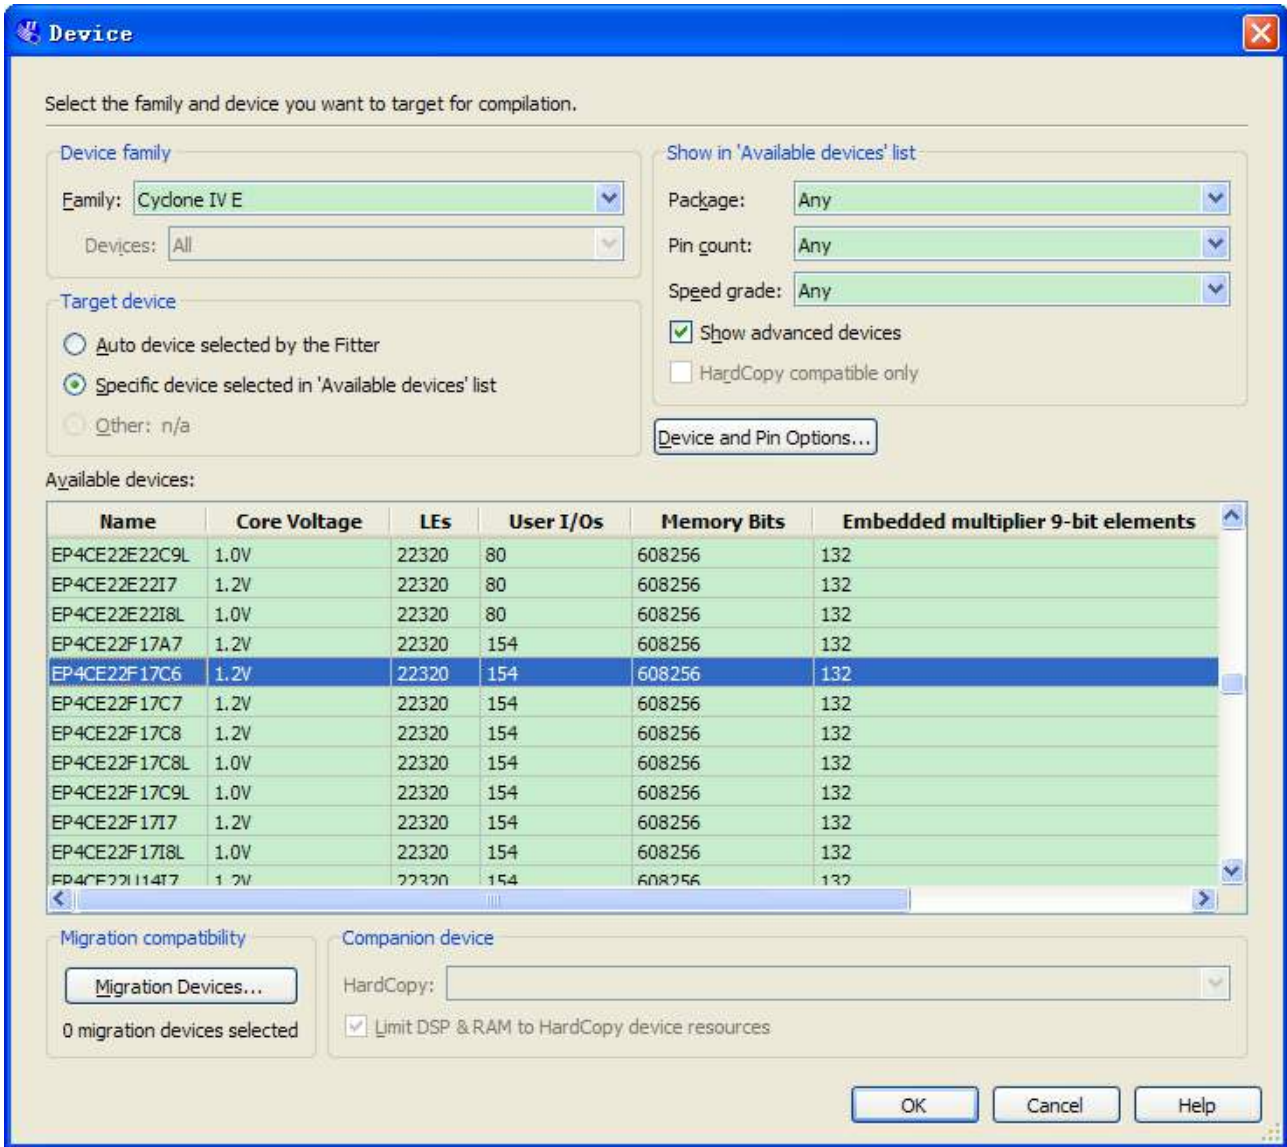

Figure 6-49 Device and Options
3. If other LEDs emit faintness light, select Assignments > Device. Click Device and Options. See **Figure 6-49**.